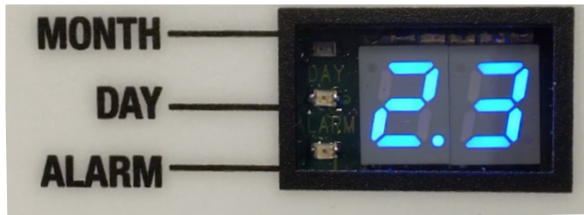

Fig. 1
- Software version is displayed (**Fig. 1**)